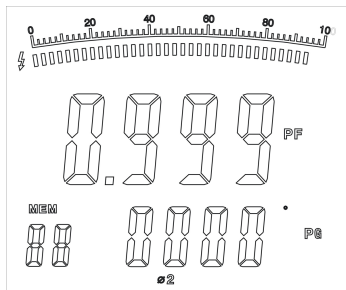

**Figure 18**
4. When measuring 3 phase 4 wires: (see figure 18, 19 and 20)
- Press **SEL** to choose the first phase , see figure 18.